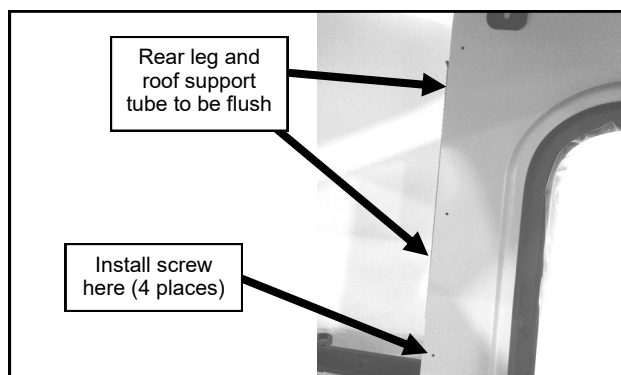

Fig. 3.12 (rear leg - left side)
**3.12** Make sure the back edge of the rear left leg is flush with the rear roof support tube, per figure 3.12. Install self-drill screws into the inside of the roof support tube using pilot holes found on the rear leg. Repeat on right side.